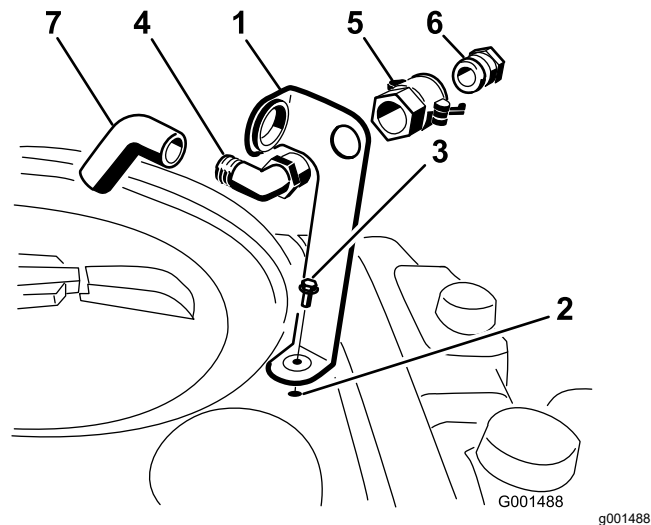

Figure 3
flange-head bolt (5/16 x 3/4 inch) as shown in Figure 3.
- Place the threaded end of the 90° elbow fitting through the bracket and thread the quick coupler onto it, securing it to the bracket (Figure 3).
3. Install the hose adapter into the quick coupler (Figure 3).
4. Lock the adapter into place by swinging the levers toward the adapter and then secure them with the hairpin cotters (Figure 3).
5. Install the anti-siphon hose through the large opening on the bracket and onto the barbed end of the 90° elbow fitting (Figure 3).